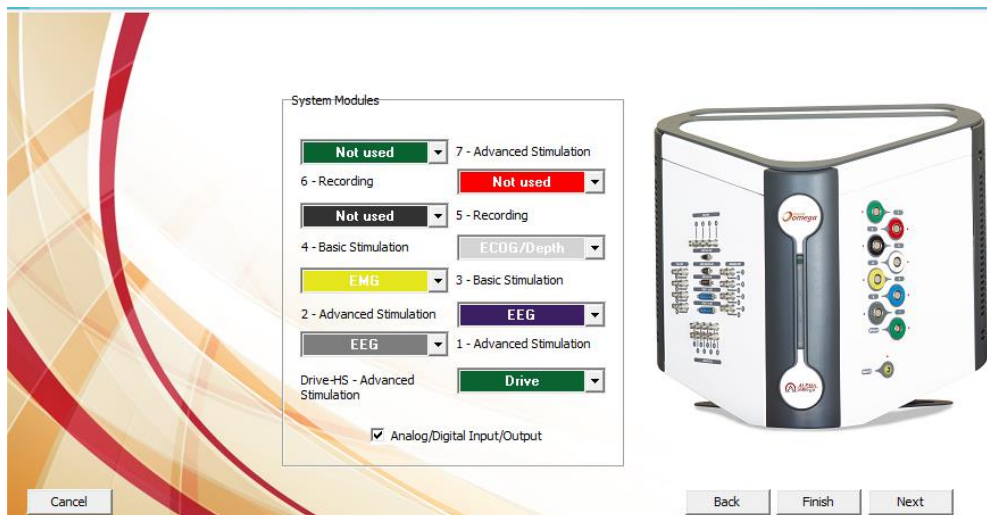

Figure 14: System Modules Window
System Modules Window (Figure 14) is displayed.
This procedure describes how to map sensors contacts. (Figure 14)
3. **System Modules Window** (Figure 14) will appear with all the current Workspace settings.